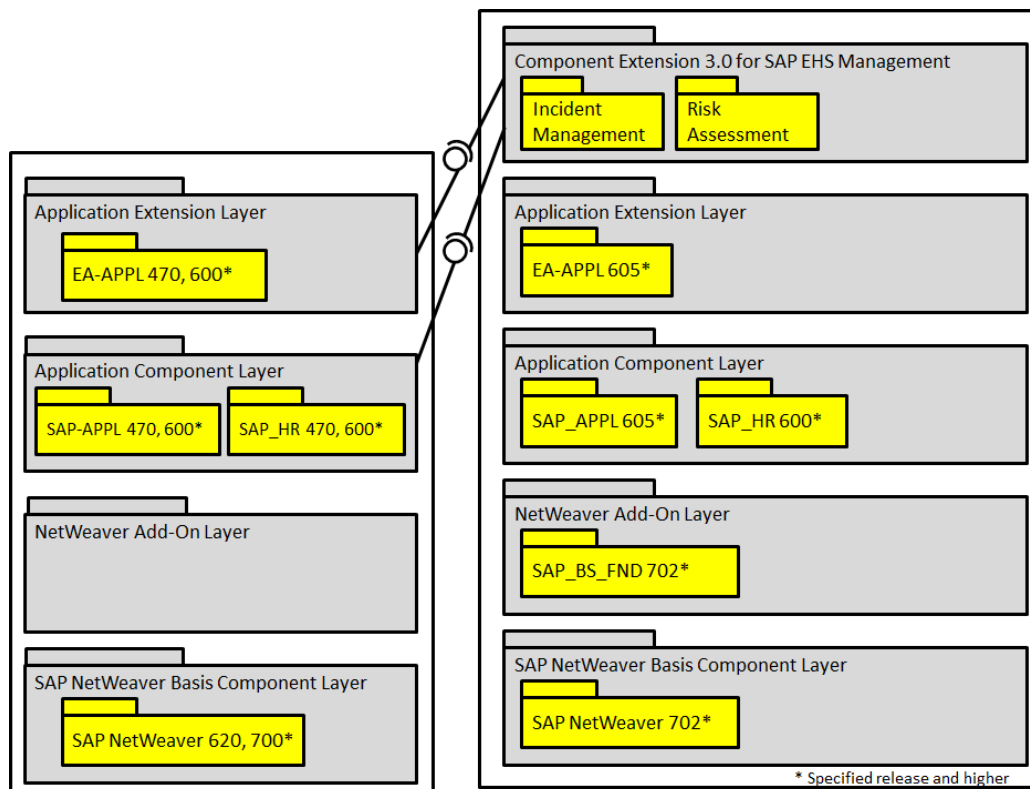
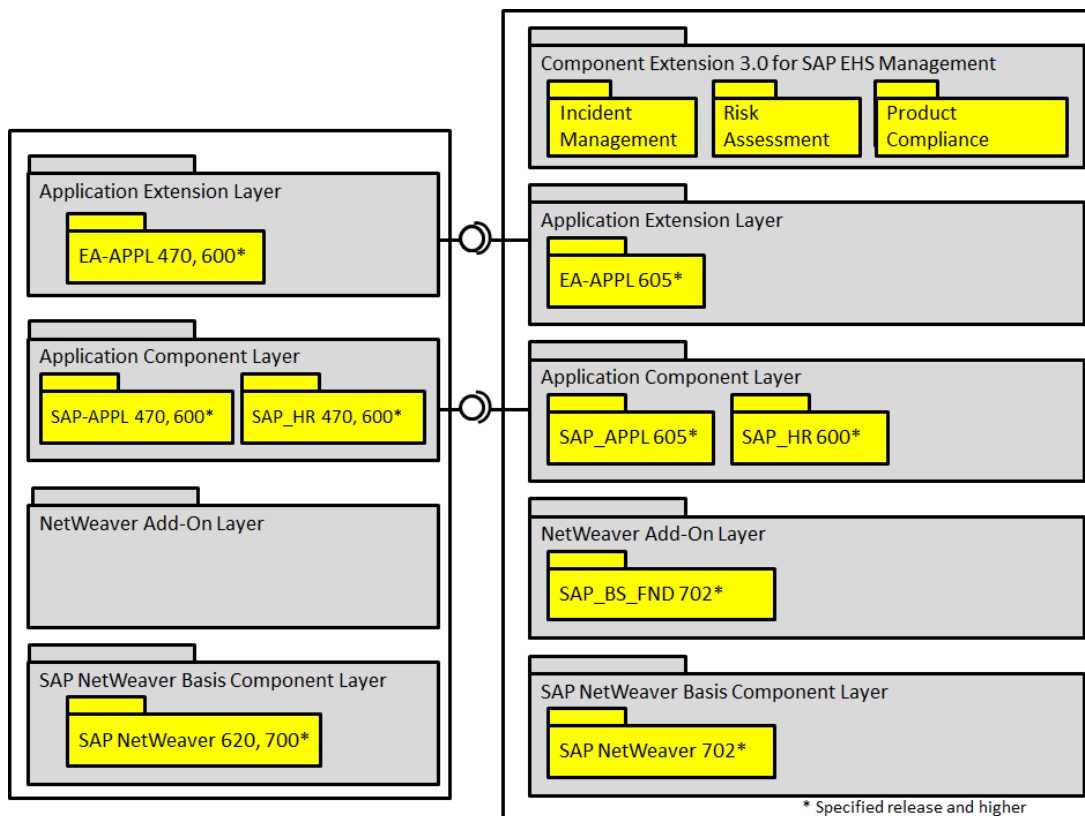

Figure 5 Side-By-Side Scenario: Data is Read Remotely
Figure 6 Side-By-Side Scenario: Data is Replicated
- Data is read remotely from the earlier ERP system by the 605 add-on system (see Figure 5 Side-By-Side Scenario: Data is Read Remotely).
- Data is replicated from the earlier ERP system to the 605 add-on system (see Figure 6 Side-By-Side Scenario: Data is Replicated).
Figure 5 illustrates how you can use a side-by-side scenario for the health and safety processes of *SAP EHS Management*. Here, the *SAP EHS Management* system read data from the earlier ERP system remotely, specifically from the following software layers of the earlier ERP system:
Figure 6 is similar to Figure 5. However, in this side-by-side scenario, the data in the application extension layer and the application component layer of the earlier system are replicated in the corresponding application extension layer and application component layer of the add-on system. The data is not read remotely. This scenario can also be used for all components of *SAP EHS Management*.